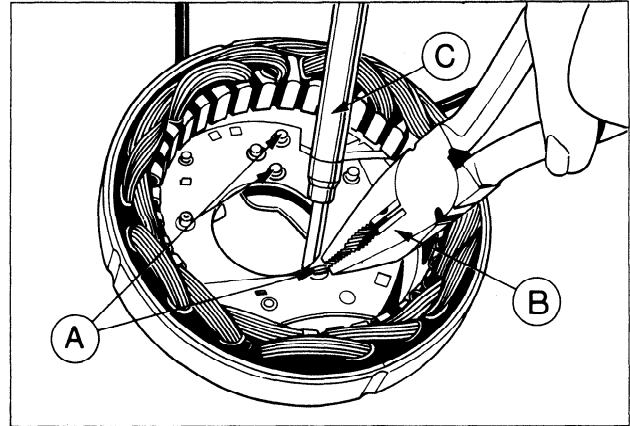

FIG. 9 Soldering Stator to Rectifier Connections
10. Unsolder stator to rectifier connections using a pair of pliers as a heat sink to reduce heat spread to diodes (Fig. 9).
- Resolder stator to rectifier (Fig. 9). Use a pair of pliers as a heat sink to reduce heat spread to diodes.